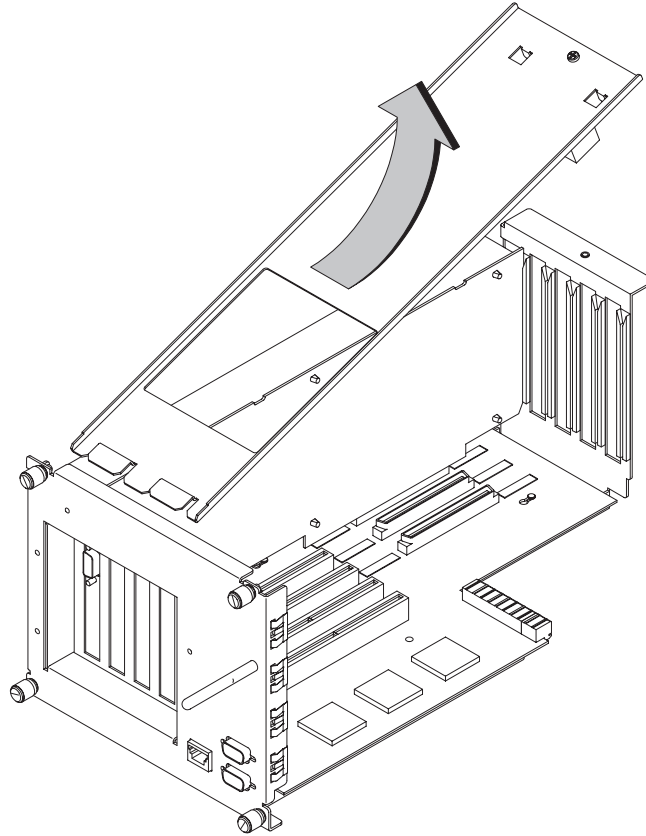

Figure B-37. Removing the PCI/EISA Assembly Cover
3. Unscrew one screw at the back of the cover and lift the cover up and out to remove it from the PCI/EISA Assembly. See Figure B-37.